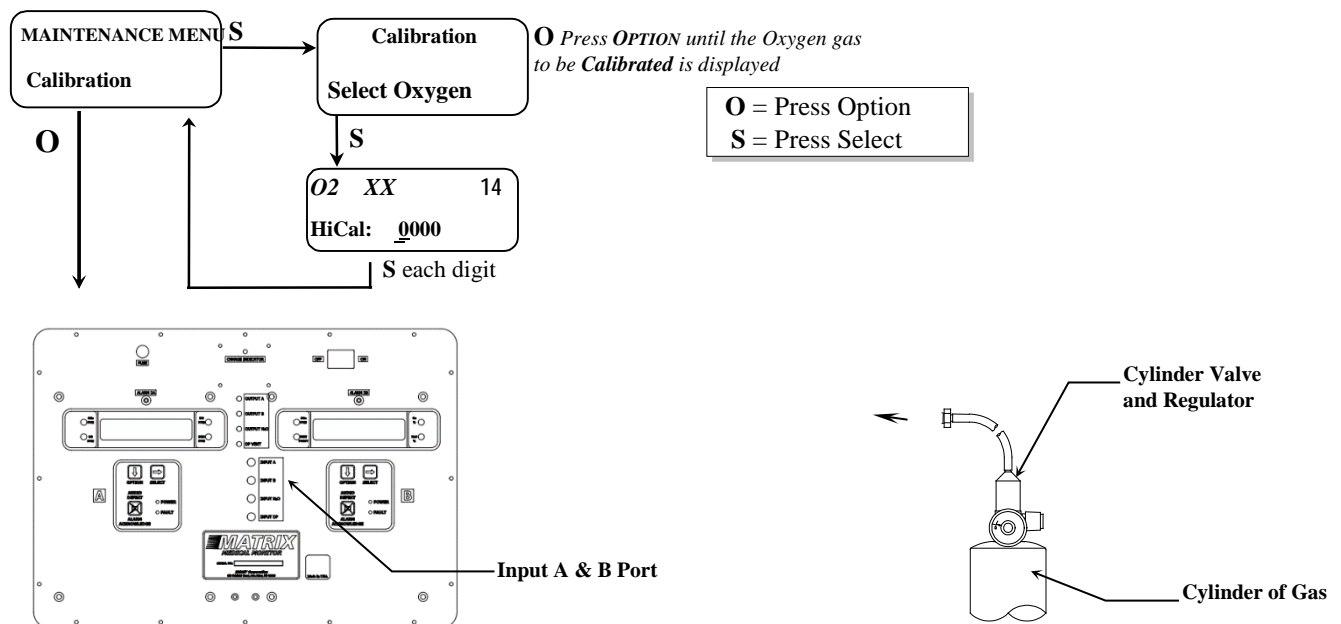

Figure 5: Connection of Calibration Gas Cylinder
The maintenance menu diagram is shown in **Figure 5 Maintenance Menu Flow Chart**. From the operational display, press the **OPTION** switch 6 times; "Enter MAINTENANCE Menu" is displayed.
- Apply calibration gas to sensor. See **Figure 5**. After about 1 minute and mV reading has stabilized.